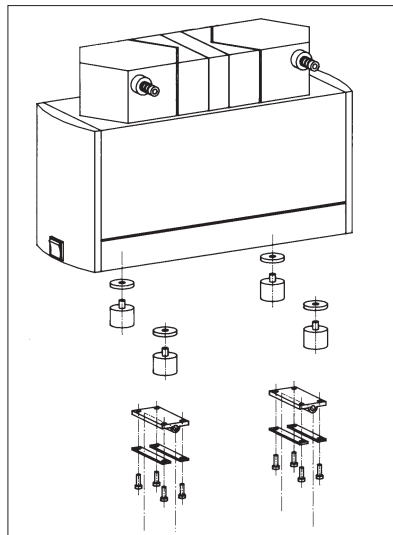

Figure 6: Installation of the mounts at the pump
- ① Unscrew the pump's rubber feet anti-clockwise.
- ② Install the mounts onto the pump according to figure 6.